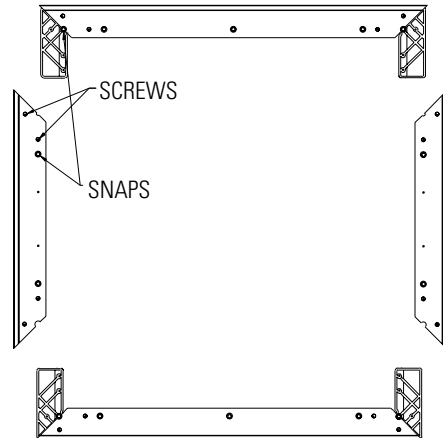

FIGURE 1 (REAR VIEW)
2. Slide the frame pieces together at corners and secure them with the eight black #10 screws provided. See Figure 1.